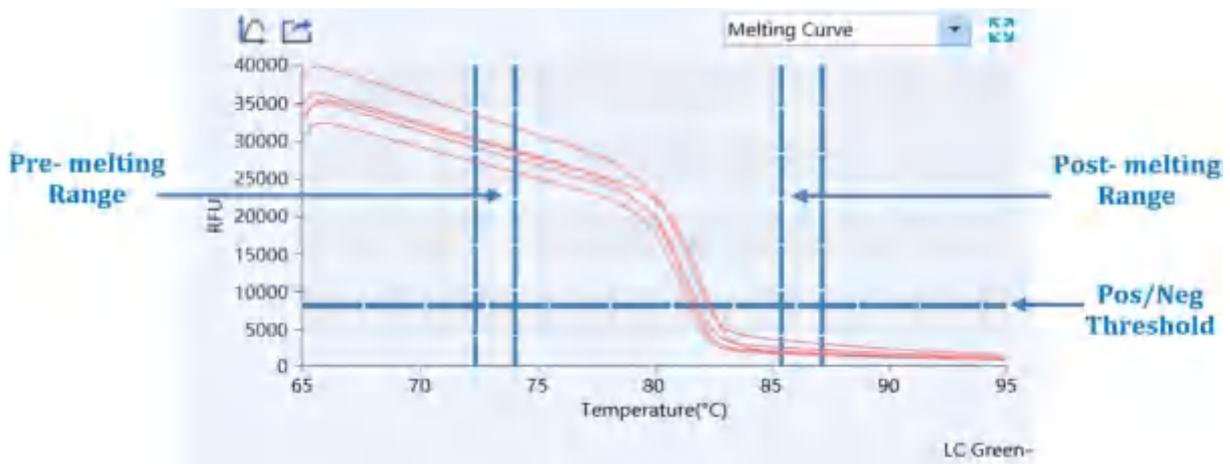

Figure D-13.1. HRM analysis interface - Melting Curve functional module
- I. **Melting Curve**: display the fluorescence intensity against the temperature, as shown in figure D-13.1.